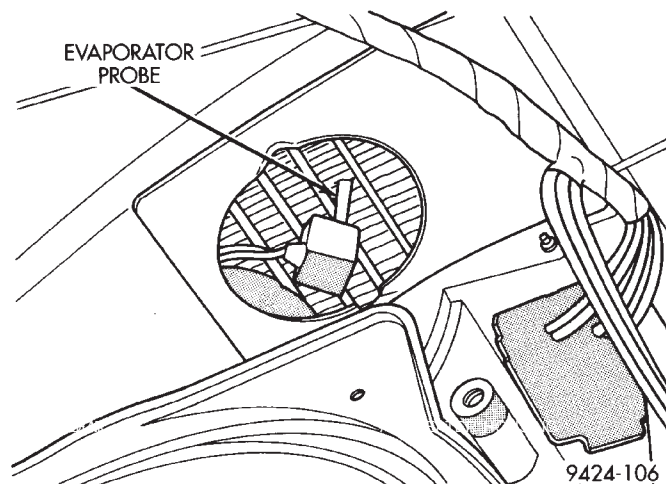

Fig. 68 Evaporator Probe
(14) Pull the evaporator probe needle out of the evaporator fins (Fig. 68). Remove the evaporator probe through the opening at the blower motor housing.